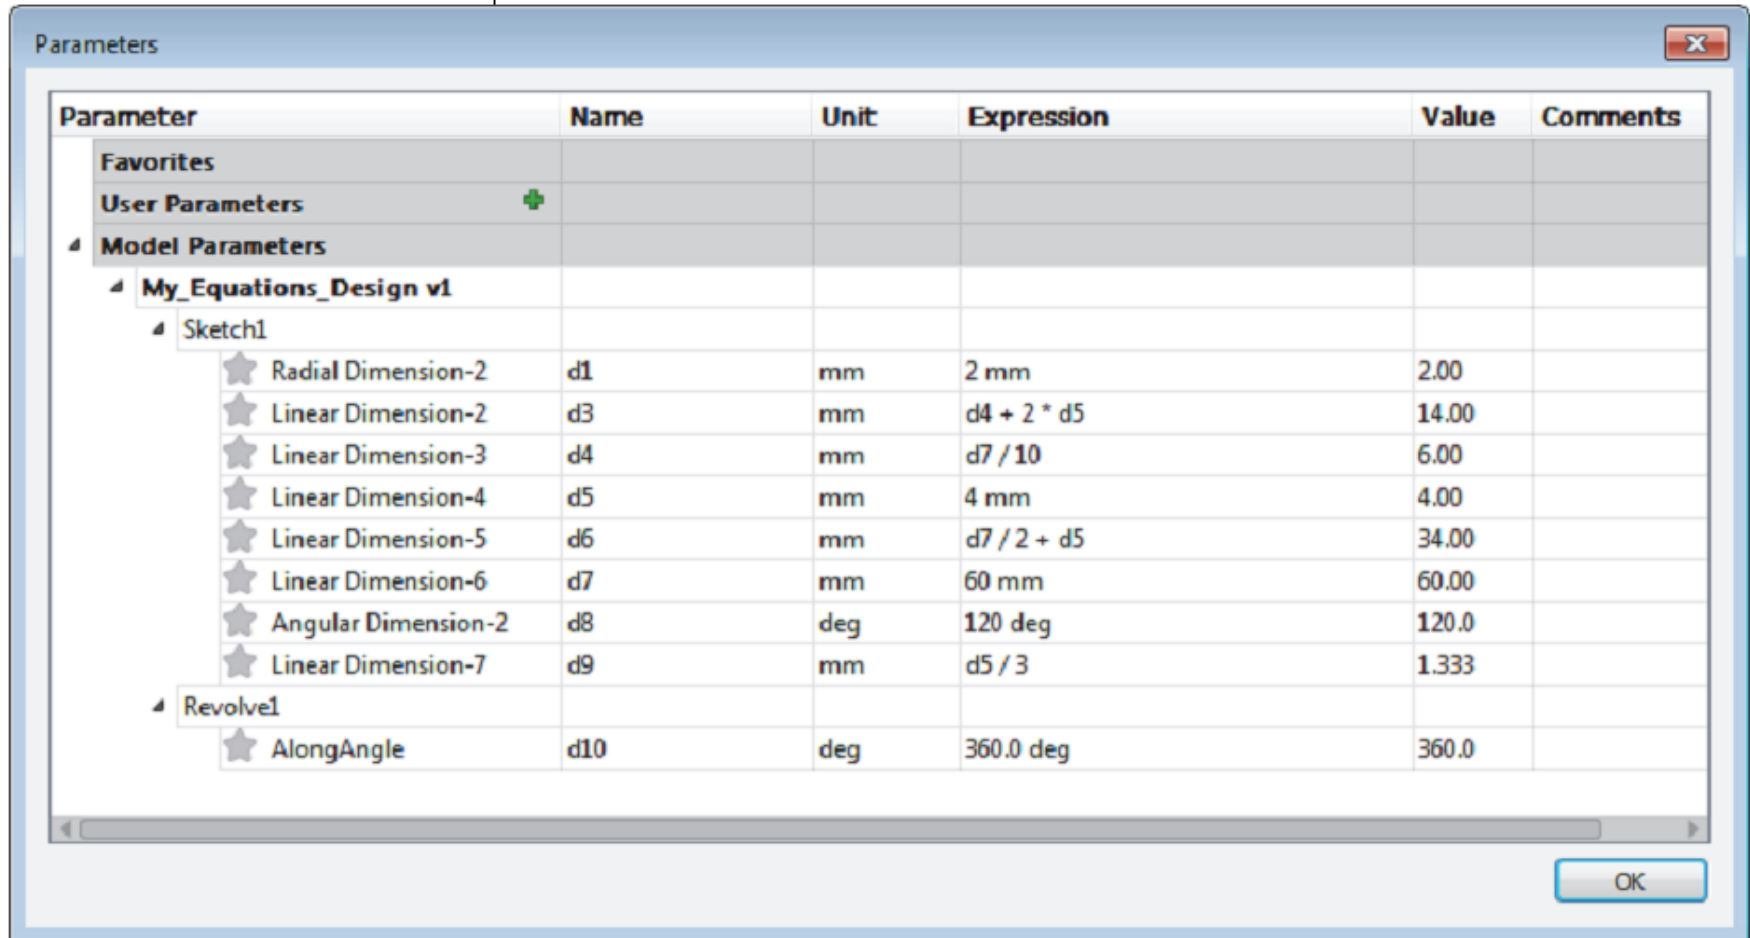

Figure 8–11
4. Expand the **Sketch1** node. Note that all of the dimension parameters that you worked with in the sketch are listed. Also note that the equations you set up are listed in the *Expression* column, as shown in Figure 8–11.